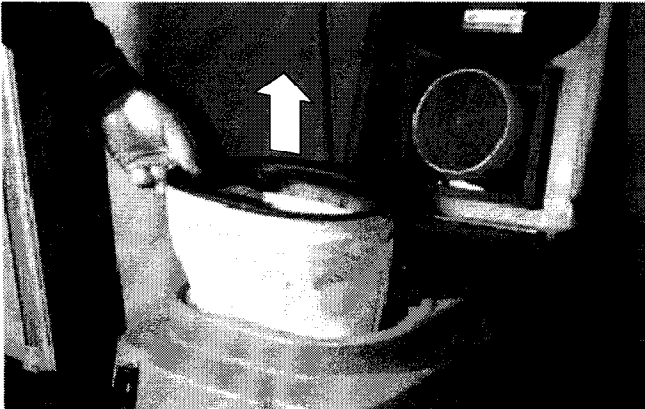

FIG. 9.
1. Hinge open recovery tank and remove vacuum bag from recovery tank. (Figure 9.)